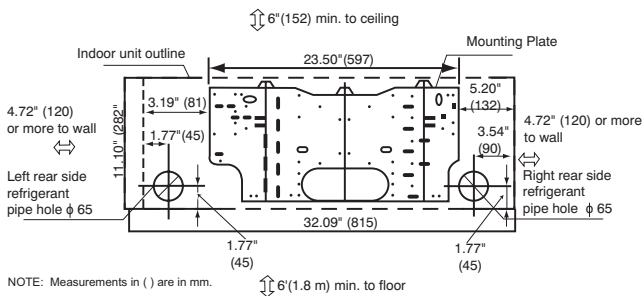

Fig. 3 – Mounting Plate- Model size 09
2. The mounting plate should be located horizontally and level on the wall. All minimum spacings shown in Fig. 3, 4, and 5 should be maintained.